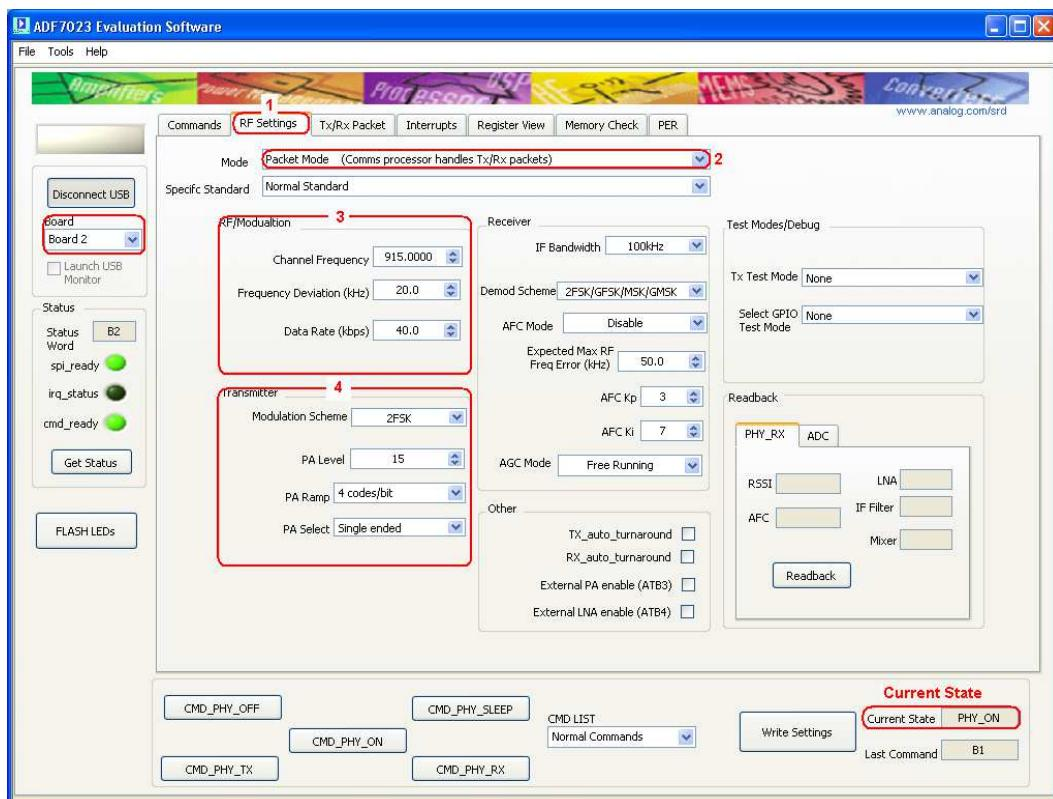

Figure 34
2. Select the “**RF Settings**” Tab (Figure 34 point **(1)**)
3. Ensure “**Packet mode**” is selected. (Figure 34 point **(2)**)
4. Set the “**RF/Modulation**” parameters as required. (Figure 34 point **(3)**)
5. Set the “**Transmitter**” parameters as required. (Figure 34 point **(4)**)